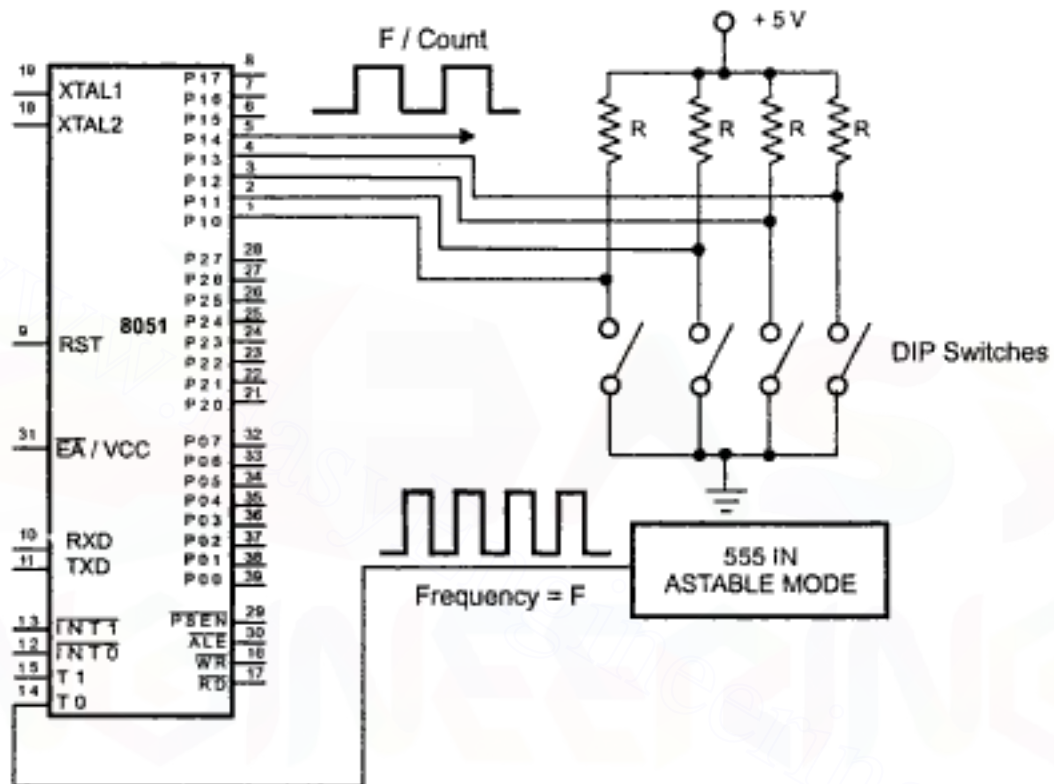

Fig. 13.51 Frequency divider application
**Solution :** The Fig. 13.51 shows the connection for timer operation. The internal timer 0 is used to implement programmable frequency divider. The DIP switch is used to read the divider count. The following section gives the algorithm and program required for this application.